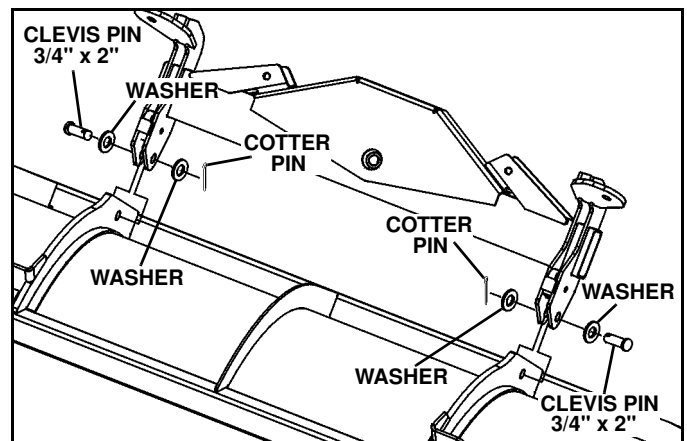

Figure 1-4
4. Install swing frame on blade, aligning the ribs on either side of the center rib between the swing frame lugs. Insert 3/4" x 2" clevis pins and washers from blade parts bag through the mounting holes in the swing frame and blade from the outside. (See Figure 1-4)